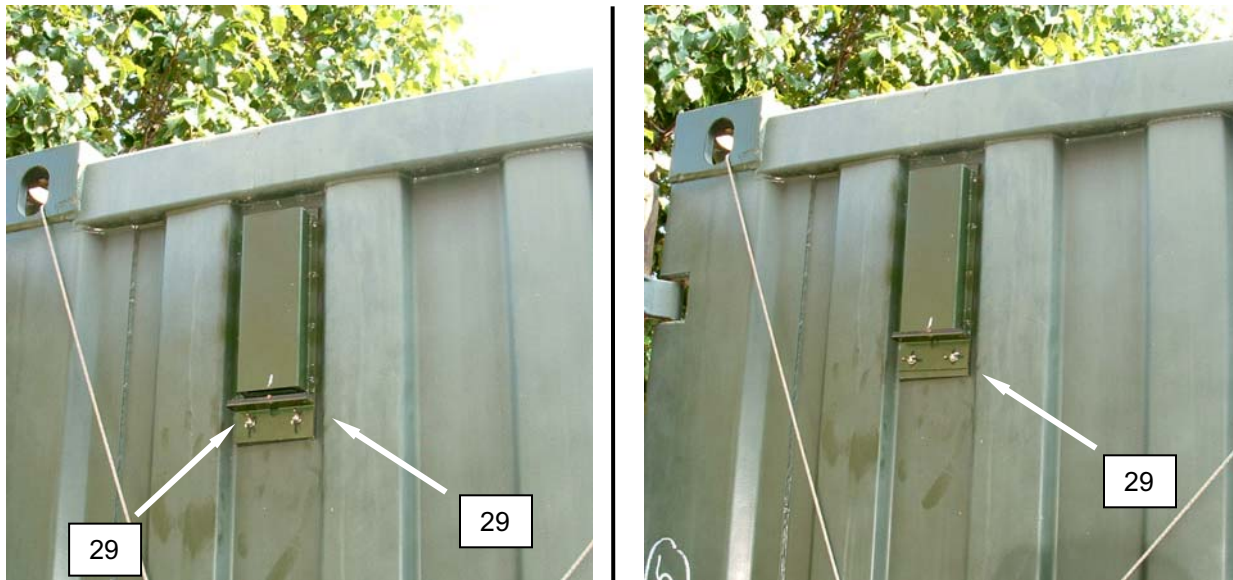

Figure 30. Close Container Vents during NBC Imminent or Actual Attack.
20. Loosen two wingnuts (Figure 30, Item 29).
21. Close container vents (Figure 30, Item 29).
22. Tighten wingnuts (Figure 30, Item 29).